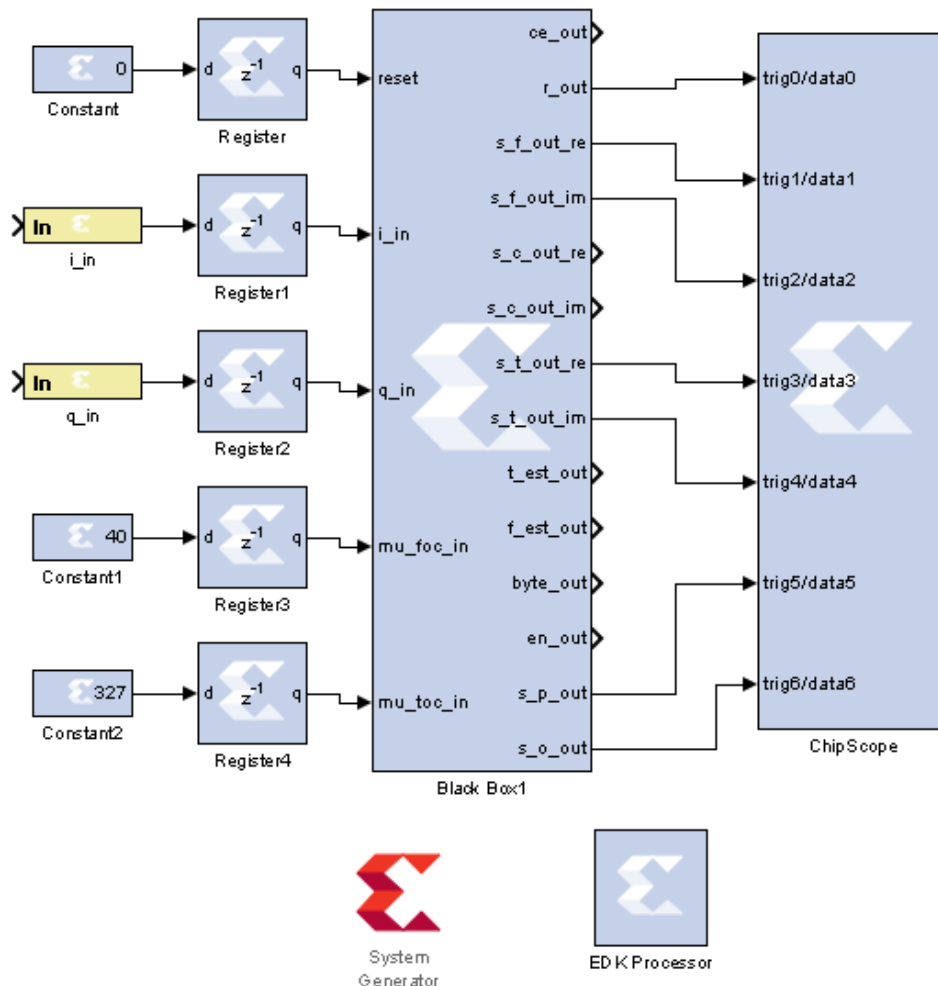

Figure 2-2: Simulink model for receiving DC Offset output
The **Simulink model**3 In Figure 2-2 will be used for receiving the ADC output and sending the data to ChipScope for extraction.
1. **Modify** the Simulink model `rx.slx` created earlier to look similar to Figure 2.2.